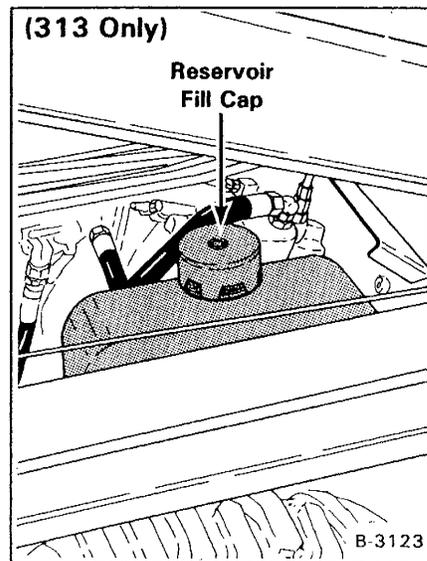

Fig. 1-26 Hydraulic Reservoir/Fill Location
A belt driven gear-type hydraulic pump is used to supply hydraulic fluid to the control valve to operate the lift and tilt cylinders and the auxiliary function. Hydraulic fluid is stored in a reservoir located under the operator guard (Fig. 1-26). The hydraulic fluid is cleaned by a 10 micron filter which is located at the rear of the loader (Fig. 1-28).
- (6) Remove the breather cap from hydraulic reservoir (Fig. 1-26).
- (7) Open the level check valve at the reservoir. Add Recommended fluid to the reservoir until it flows out of open check valve.
- (8) Close the check valve and put additional quart (.946 L) of fluid into the reservoir.
- (9) Replace breather cap. Lower and fasten operator enclosure.
- (10) Start the engine. Check for hydraulic leaks. Repair any leaks.